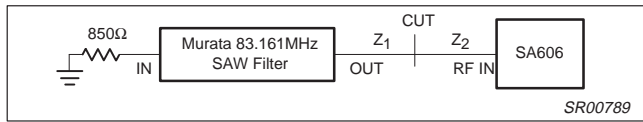

Figure 7. Termination Matching of SAW Filter
- After identifying the impedance of the SAW filter output indicated by Z_1 in Figure 7, the RF input impedance, Z_2 , must be adjusted to provide a conjugate match to Z_1 . Z_2 is found on the Smith Chart by reflecting Z_1 about the purely resistive axis represented by the horizontal line running through the center of the Smith Chart.